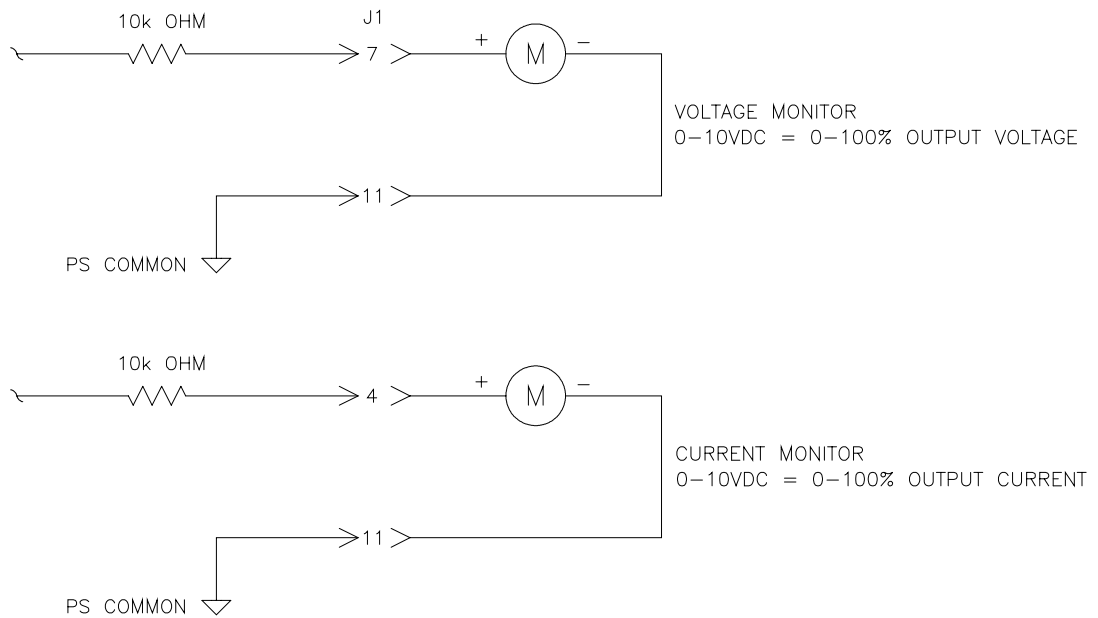

Figure 3.4 Remote Monitoring
Remote Monitoring: Test points are made available for monitoring the voltage and current output. The test points are always positive regardless of the output polarity, where zero (0) to 10 (10) volts equals 0-100% of output. See Figure 3.4 for test point wiring.